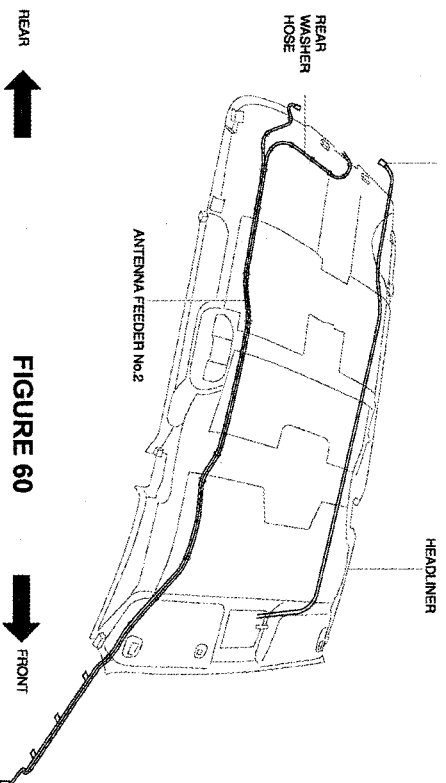

FIGURE 60
- 11.) CONNECT THE ROOF WIRING HARNESS CONNECTOR AND ATTACH THE ROOF WIRING HARNESS CONNECTOR CLIP TO THE BODY. (SEE FIGURE 60)
(SEE FIGURE 60)
- 13.) CONNECT THE REAR ANTENNA FEEDER NO. 2. (SEE FIGURE 60)